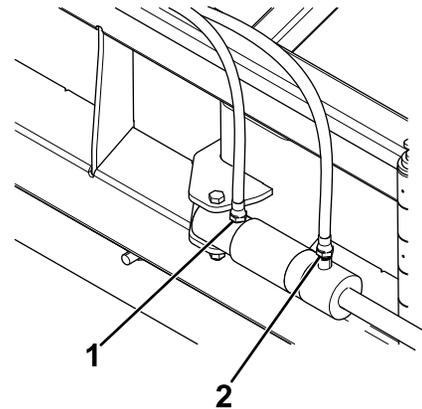

Figure 12
- Route the hose from XR1 to the outside fitting on the wing hydraulic cylinder (Figure 12).
- Route the hose from XR2 to the inside fitting on the wing hydraulic cylinder (Figure 12).